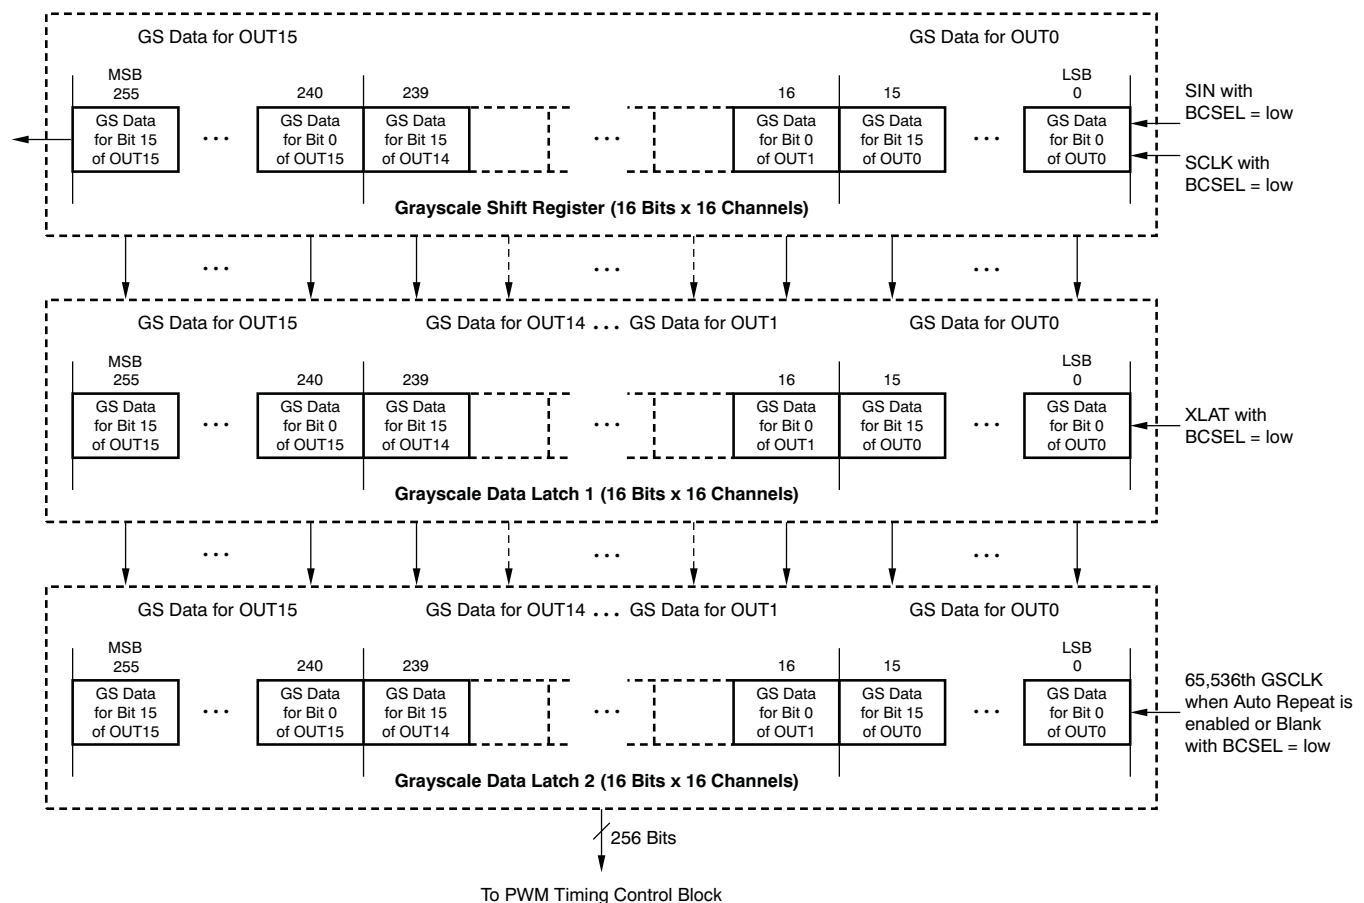

Figure 28. Grayscale Shift Register and Data Latch Configuration
The Grayscale (GS) Shift Register and data latch 1 and 2 are each 256 bits in length, and set the PWM timing for each constant current driver. See Table 4 for the ON time duty of each GS data bit. Figure 28 shows the shift register and latch configuration. Refer to Figure 11 for the timing diagram for writing data into the GS shift register and latch.